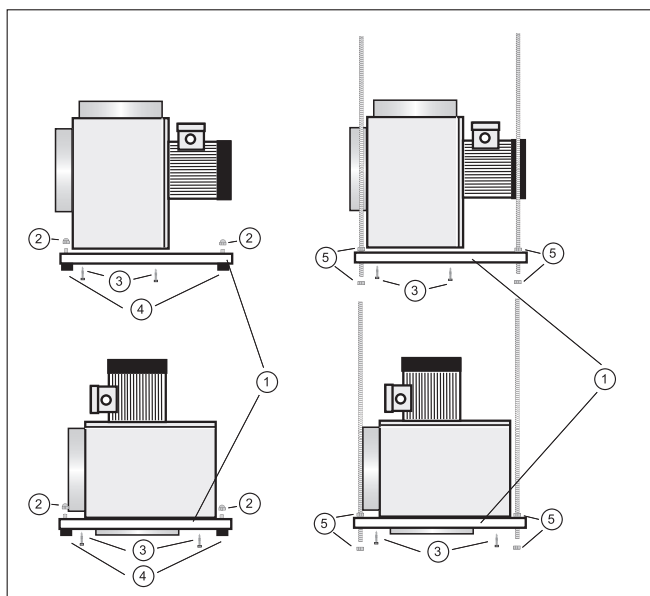

Fig. 5
- As fig. 5 illustrates, the venter can be placed in virtually any position or direction, except with the motor pointing down. When placing the venter on the support legs (1), the vibration dampers (4) should be used and secured by nuts (2).
- The support legs are attached to the bottom of the venter using the enclosed sheet metal screws (3). In this configuration, the venter is typically placed on a shelf hung from a wall.
- If hanging the venter from the ceiling, threaded rods should be used. Attach the support legs (1) to the bottom of the fan and secure with the sheet metal screws (3). Do not use the vibration dampers. Instead, use the holes on the top of the legs for the threaded rods, and secure these with the nuts (5).